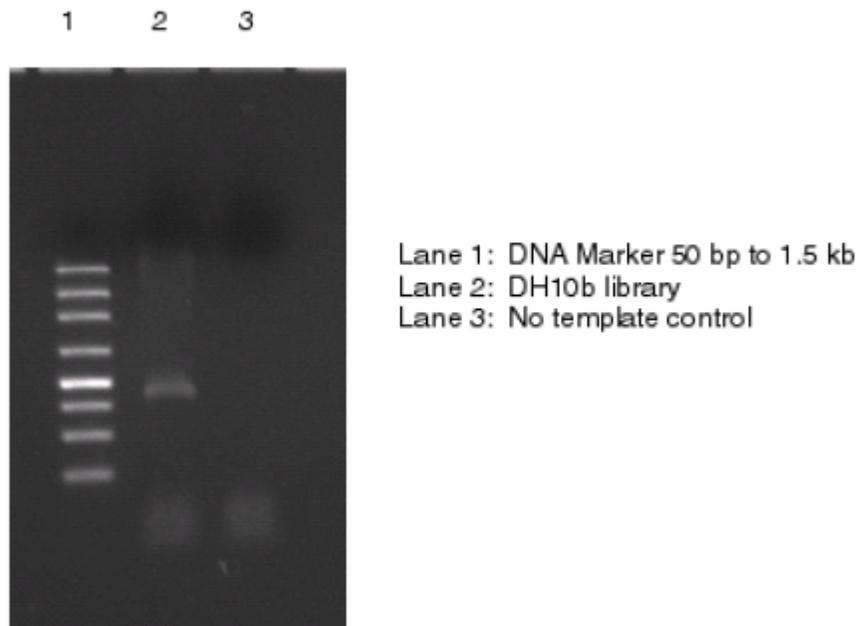

Figure 14 Mate-paired library amplification sample run on a Lonza FlashGel.
2. Run the FlashGel for 6 minutes at 275 V (see Figure 14 on page 105).